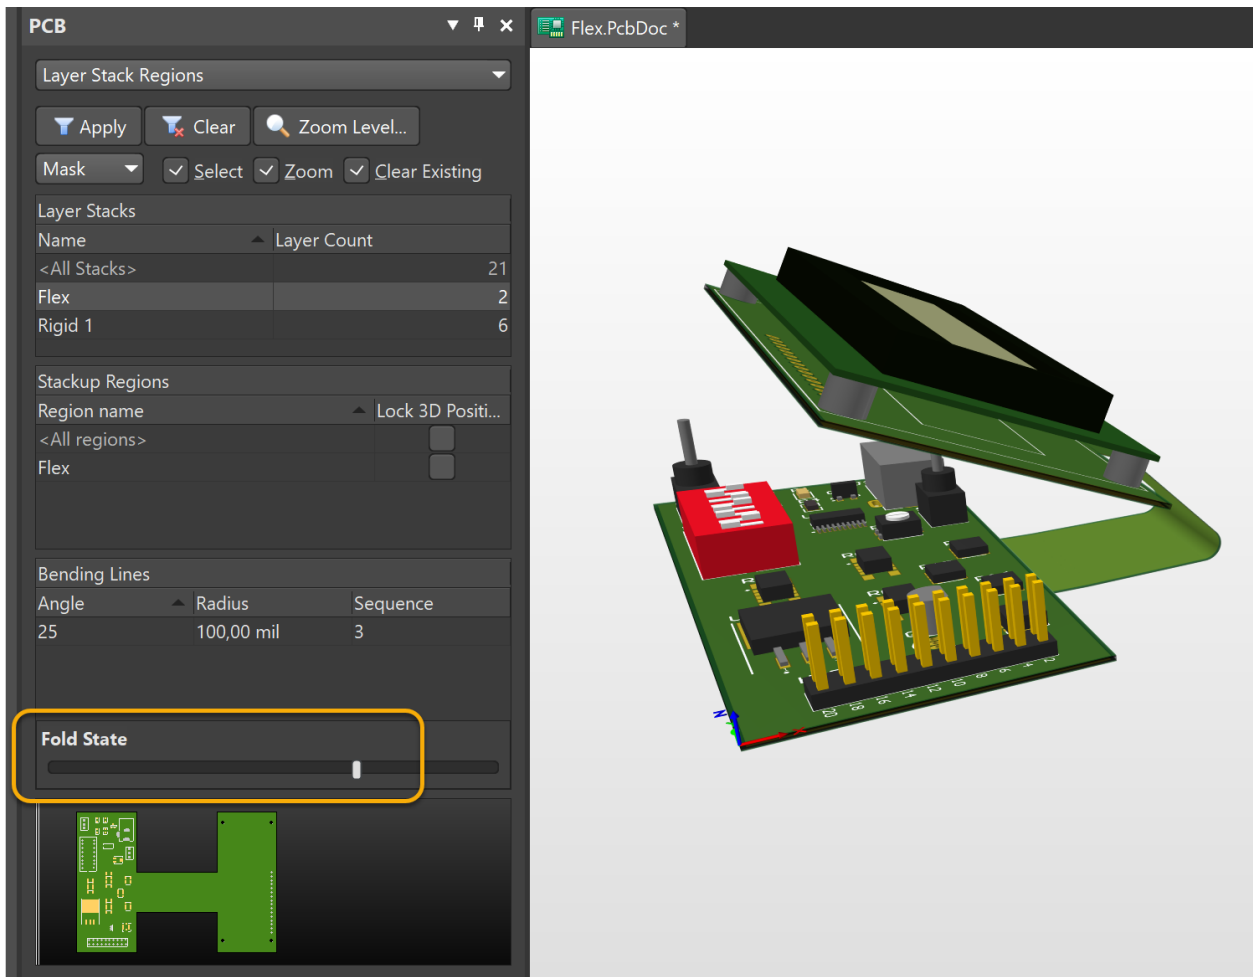

Figure 16. Fold State Slider
34. In the **PCB** panel, slide the **Fold State** slider to manually fold the board, see Figure 16.